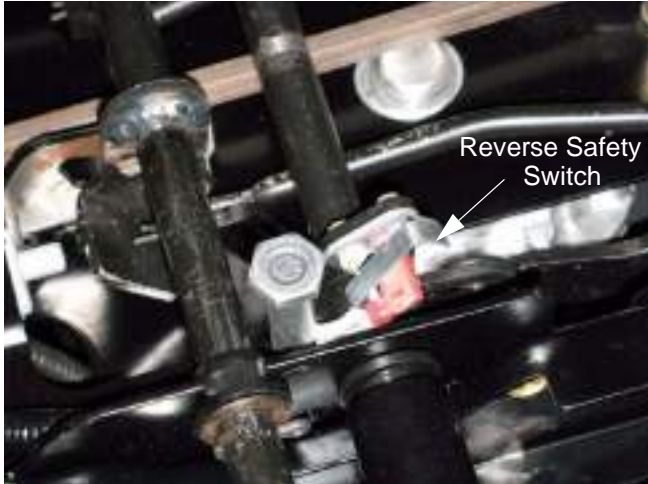

Figure 7.9
5. The **Reverse Safety Switch** is a simple metal contact tang. When the drive pedal is pressed into reverse, the reverse switch is pushed into a bolt. This provides a path to ground. See Figure 7.9.